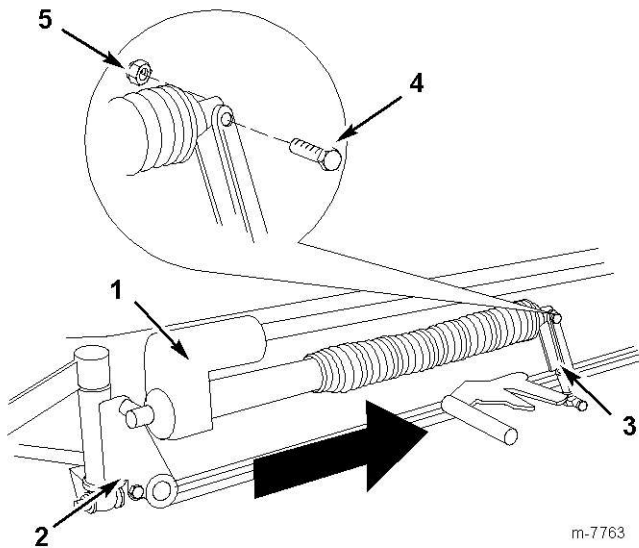

Figure 16
- Power the actuator to extend the rod to reach the link (Fig 16).
- Secure the actuator assembly to the link using a bolt (1/2 x 2 inch) and locknut (1/2 inch) as shown in Figure 16.